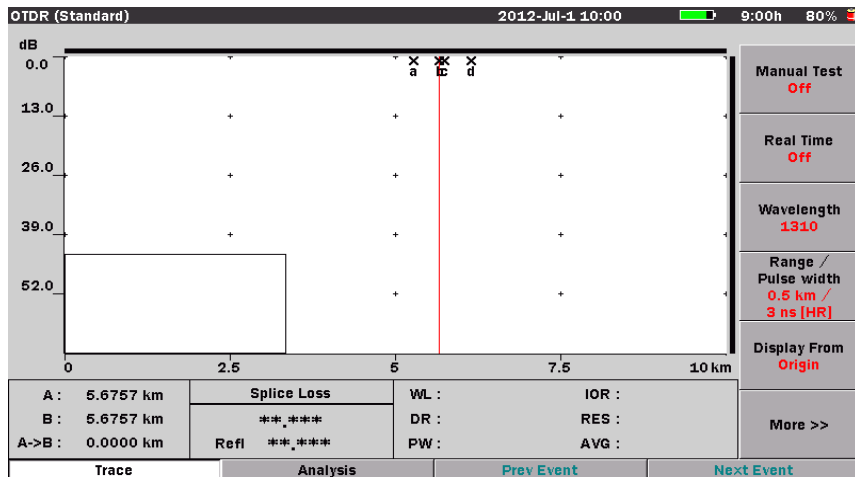

Figure 4-1: OTDR (Standard) Mode – Initial Screen
1. Start OTDR (Standard) mode. The Trace screen appears (see Figure 4-1 on page 4-1).